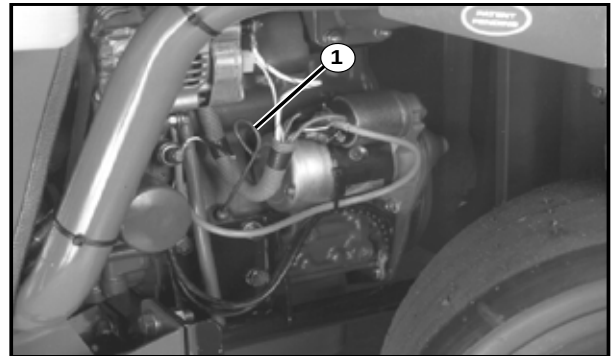

Figure 9.11.1
- 3 Remove the filler cap (Fig. 9.11.2) and refill with fresh oil up to the maximum level on the dipstick (Fig. 9.11.1). See Specification for oil grade and amount.